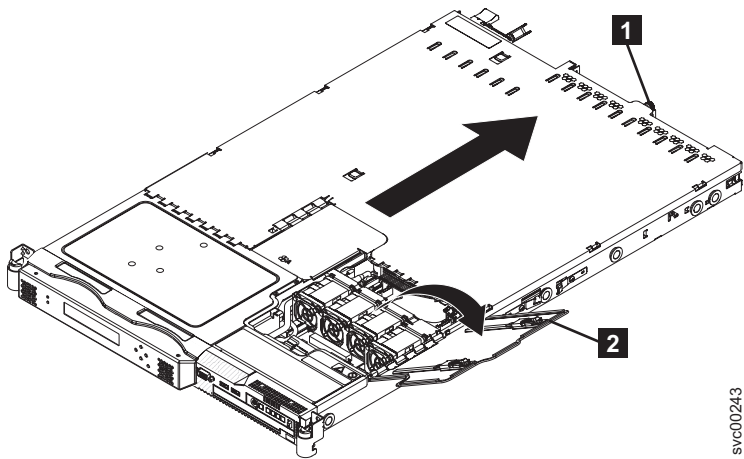

Figure 66. The SAN Volume Controller 2145-8G4 with fan door open
- Loosen the thumbscrew (**1** in Figure 66 on page 84) that secures the cover at the rear of the SAN Volume Controller 2145-8G4.